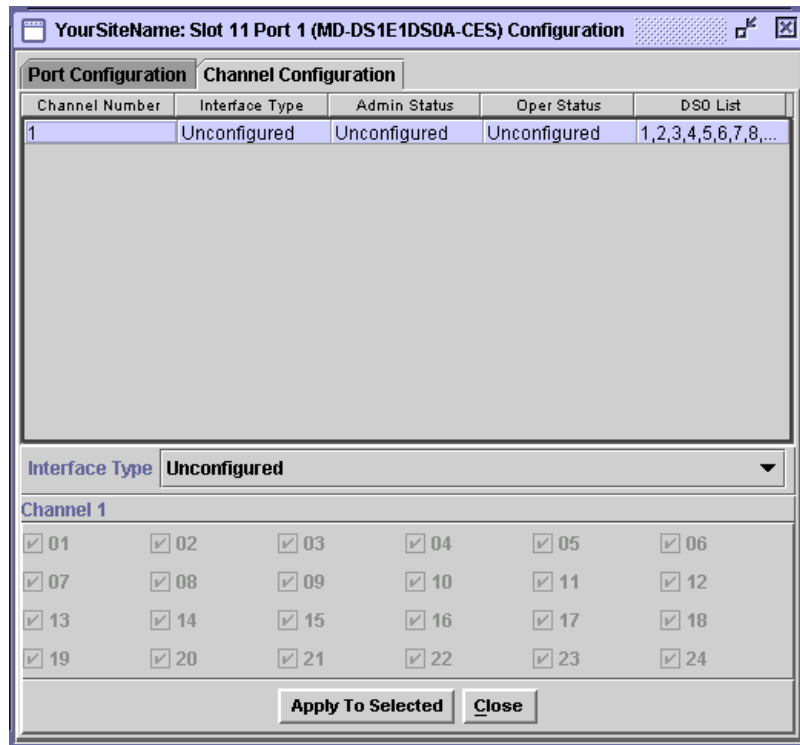

Figure 4-11. 12-Port Medium-Density DS1/E1/DS0A CES Module Channel Configuration Page
The Channel Configuration window appears (see Figure 4-11).
- 4 In the Channel Configuration page (see Figure 4-11), either click the arrow in the Interface Type field (in the middle of the window), or double-click the channel in the Interface Type field, and select an interface from the list.